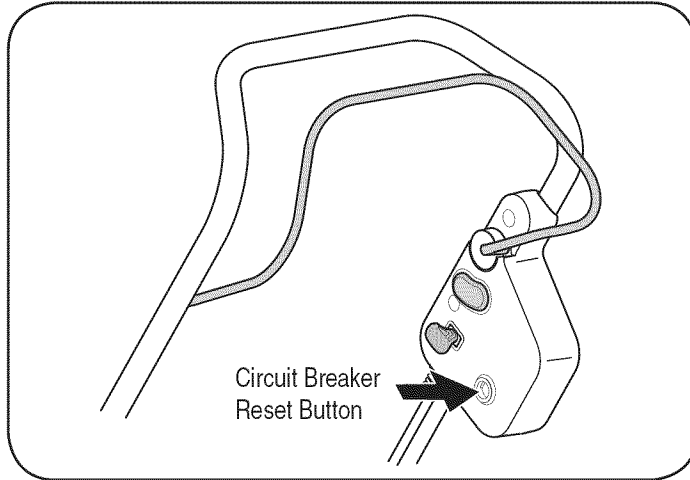

Figure 14
2. Press the circuit breaker reset button inward to reset. See Figure 14.